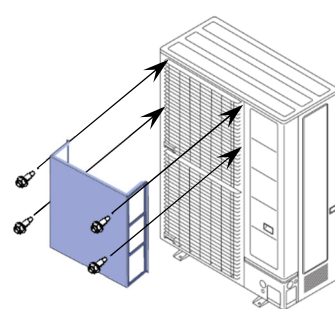

Figure 2
- (2) Using the self-tapping screw provided, locate and secure the wind baffle as shown in Figure 2.